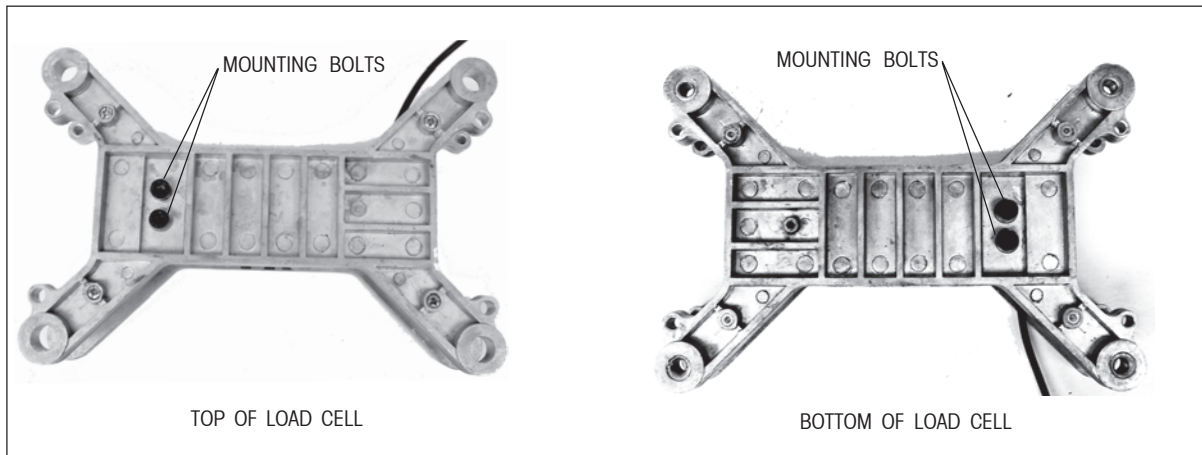

Figure 4-16. Load Cell Mounting Bolt Locations.
3. Remove the Load Cell, by unscrewing two bolts on the top of the Load Cell and two bolts on the bottom of the Load Cell. See Figure 4-16.